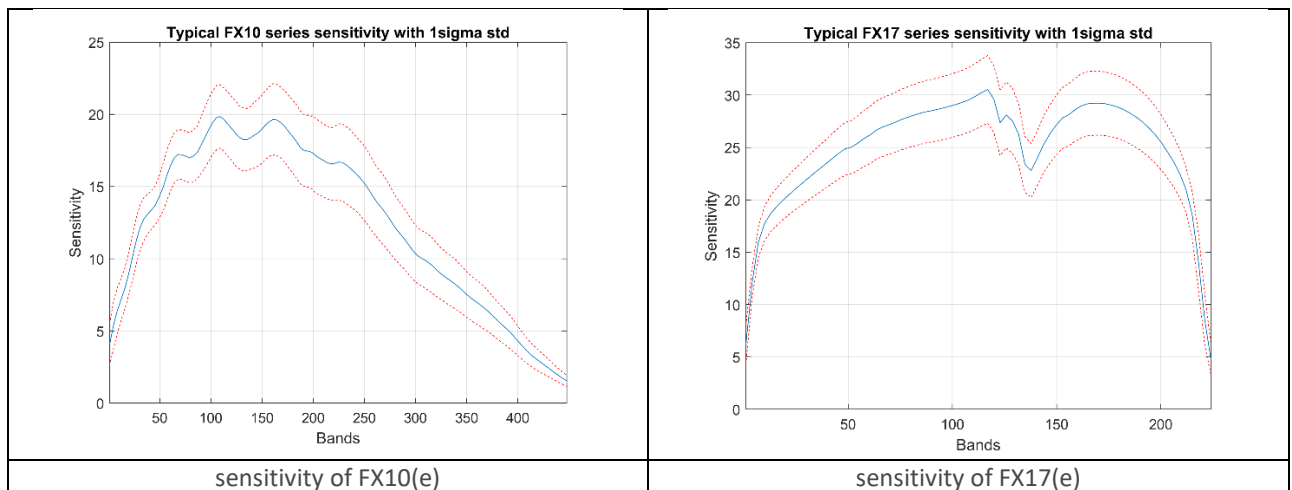

Figure 2: sensitivity cures of FX10e and FX17e. FXe camera uses same detectors as FX cameras. Those curves are therefore identical for FX cameras.
The sensitivity of devices has not been discussed and did not play any role in the previous section. Here we define the sensitivity as digital signal response to radiance signal input (i.e. $DN / [Spectral_radiance \times t_int]$). It is depending on the Quantum Efficiency (QE) of the detector and the transmission of the optical components. Optically speaking, a camera includes components, one of them being a grating (used as a dispersive element in the camera). The grating efficiency varies due to the manufacturing process, and this contributes the most in sensitivity difference between cameras. AIE routine does not correct this, and the response of the camera deviates between FX units (see Fig.2).